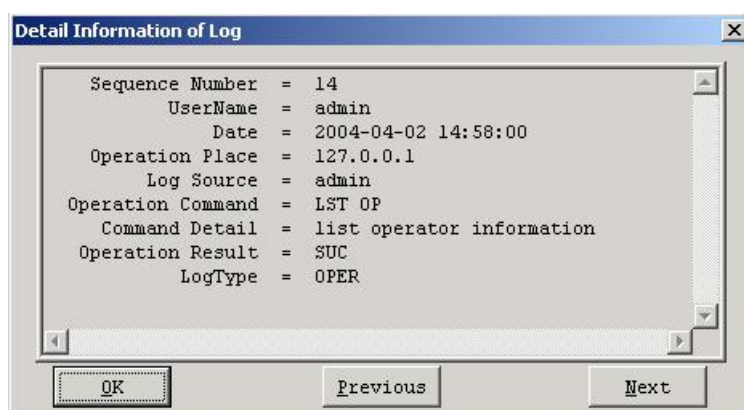

Figure 3-21 [Detail Information of Log] window
- 5) Double-click a log entry, or select it and press <Enter>. The [Detail Information of Log] window is displayed. See Figure 3-21.